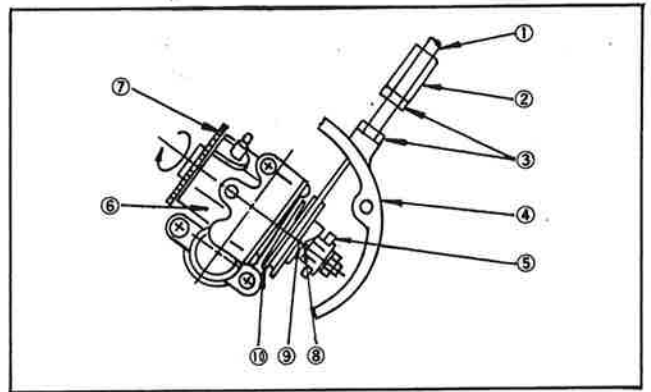

Fig. 2-3-6
- a. Remove Autolube pump cover, which is located on forward portion of the righthand crankcase cover. (Fig. 2-3-6)